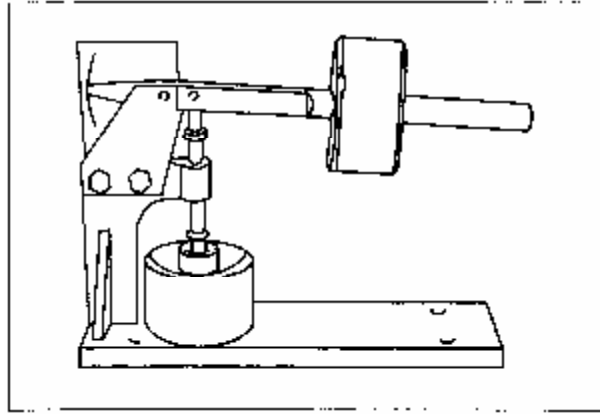

Figure 3-44 Valve Tappet Leak down test
3.4.11 Leak down test for valve tappet: if possible, use a leak down tester to check tappet leak down(Figure 3-44). The test oil is industrial alcohol or special test oil. Apply a pressure (196N) on the plunger, and measure the time required for another 1mm plunger leak down after the plunger has dropped by 2mm (the value should be 7~50s).